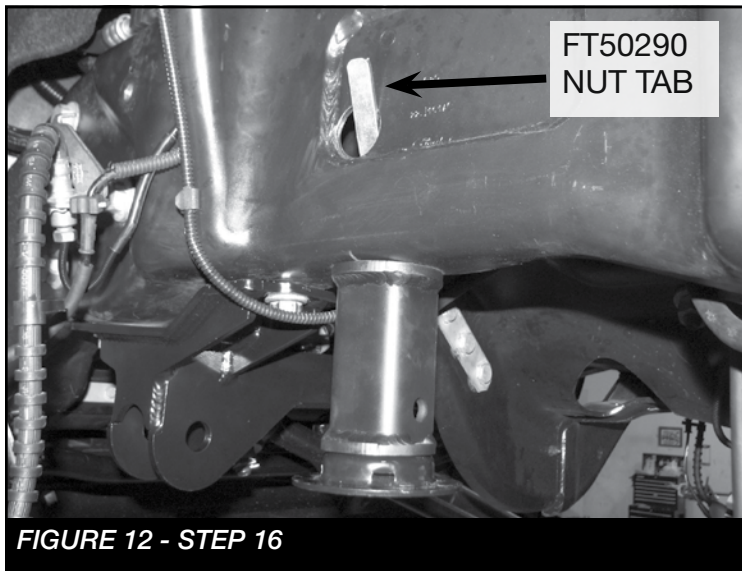

FIGURE 12 - STEP 16
16. Using FT50290 (Nut Tab) and 1/2 X 1-1/2" bolt and washer. Mount the new bump stop extension to the frame. Route the Nut tab through the 1-1/4" hole that was made in Step 11. Torque to 127 ft-lbs. **SEE FIGURE 12**